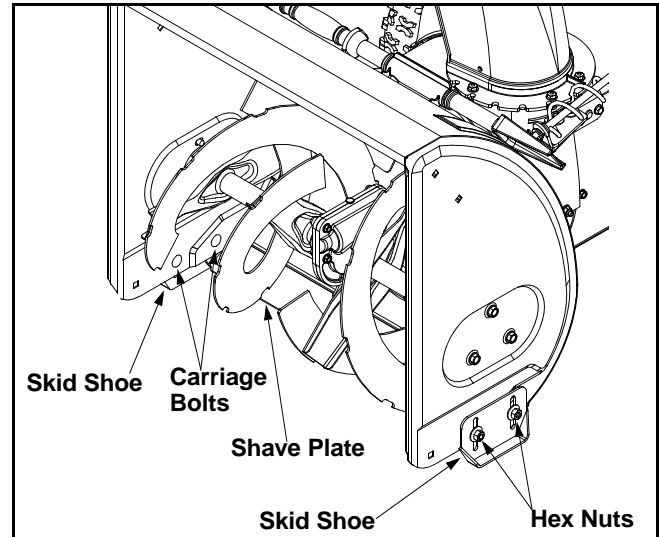

Figure 19
- To remove skid shoes, remove the four carriage bolts, bell washers and hex nuts which attach them to the snow thrower. Reassemble new skid shoes with the four carriage bolts, bell washers (cupped side goes against skid shoes) and hex nuts. Make certain the skid shoes are adjusted to be level. See Figure 19.